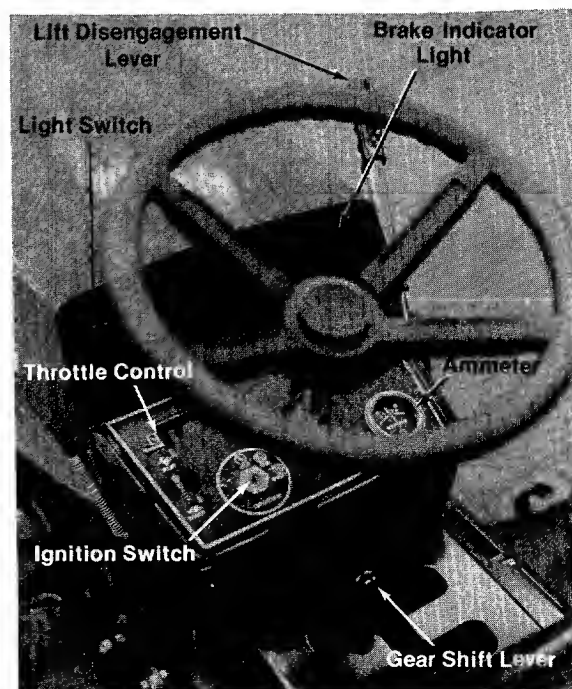

FIGURE 6. CONTROLS
- a. **Throttle Control.** The throttle control is used to regulate the engine speed and choke the engine. The engine should be operated from $\frac{3}{4}$ to full throttle when operating the cutting deck or snow thrower (optional). See figure 6.
range shift lever to give you the equivalent of six forward speeds. See figures 6, 7 and 8.
g. **Ammeter.** The ammeter registers the rate of battery charge or discharge. The ammeter should register on the plus side (+) when the engine is running in the fast position until the battery is completely charged. With a fully charged battery or with the engine idling the ammeter will not show a charge. See figure 6.
h. **Light Switch.** Push the light switch to turn on the lights. The lights will only operate when the engine is running. See figure 6.
Electric Start. See figure 6. Turn the key to the START position to start the engine. When the engine is running, let the key return to the ON
j. Lift and Disengagement Lever. It is used to raise the cutting deck. Pulling it all the way back and locking it disengages the blades. the engine will not start unless the lift and disengagement lever is in the disengaged position. See figure 6.
- Step 3. Place the lift and disengagement lever in the **DISENGAGED** position. See figure 6.
- Step 4. Set the throttle control in the **CHOKE** position. See figure 6.
To stop the blades, move the lift and disengagement lever (figure 6) into the DISENGAGED position. This raises the deck and disengages the blades.